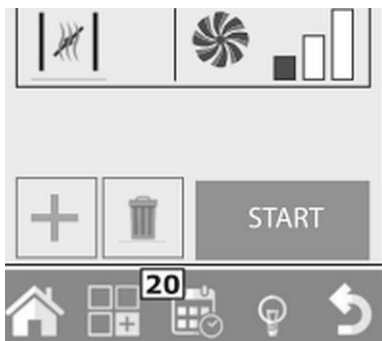
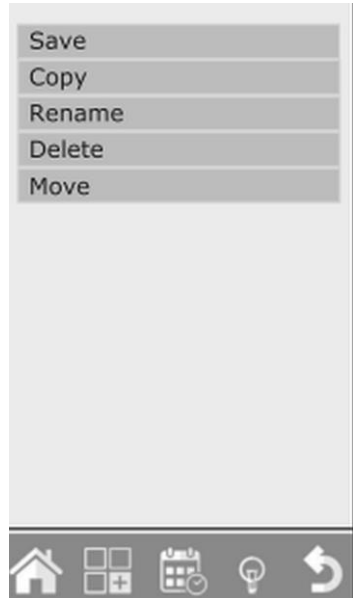
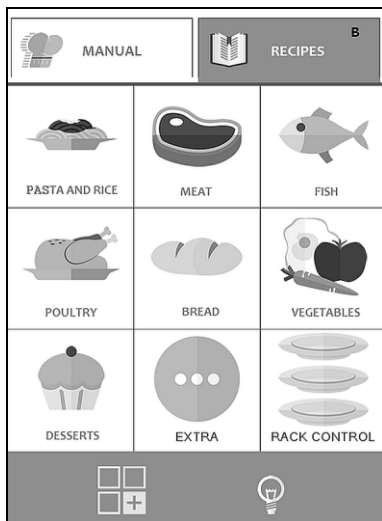

Fig. 25
Fig. 26
Fig. 27
5. In 'Functions' menu (20, Fig. 25), select 'Save', and then 'Copy'.
1. If you want to move a thermal processing program from one group to another, open the selected thermal processing program and press 'Functions' key (20, Fig. 25).
Open the thermal processing program and press 'Functions' key (20, Fig. 25), select 'Save' and then 'Rename' (Fig. 27). Type in the new name and press Enter.
1. Open the thermal processing program for removing and press 'Functions' key (20, Fig. 25), select 'Save' and then 'Remove' (Fig. 26).
The appliance is supplied with a series of thermal processing programs pre-loaded in the memory. They are organised by product categories (meat, fish, vegetables, etc.). They may be displayed out of 'Recipes' list (B, Fig. 27)
By pressing 'Recipes' control field (B, Fig. 27) the thermal processing programs are organised by product categories, e.g., meat, fish, vegetables, etc.